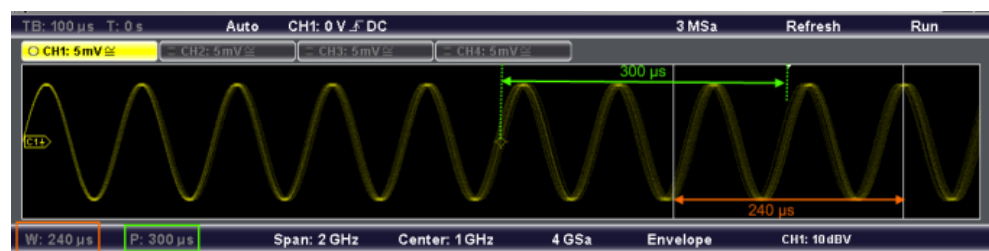

Figure 8-1: Width and position of the time base extract for FFT calculation
The display can be restricted to the results for a certain time base extract and to a specified frequency range. The time range is indicated by white lines in the Y(t)-diagram (see also Figure 8-1).
2. Define the time base extract for which the FFT is to be calculated and displayed. The extract is defined by its width and position (see Figure 8-1).
1. Define the time base extract for which the FFT is to be calculated and displayed. The extract is defined by its width and position (see Figure 8-1).